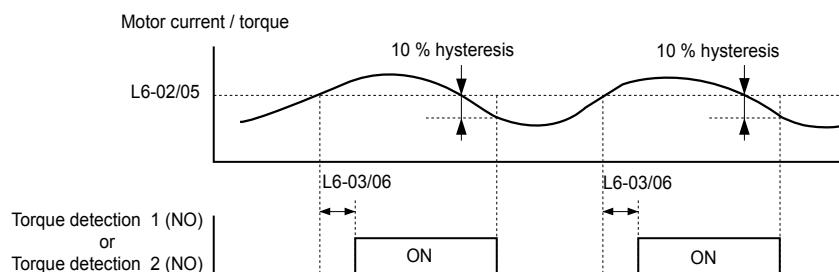
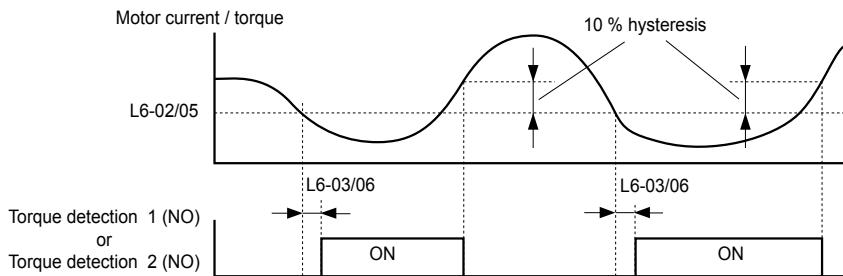

Figure 5.88 Overtorque Detection Operation
Figure 5.89 Undertorque Detection Operation
**Figure 5.88** and **Figure 5.89** show the function of overtorque and undertorque detection.